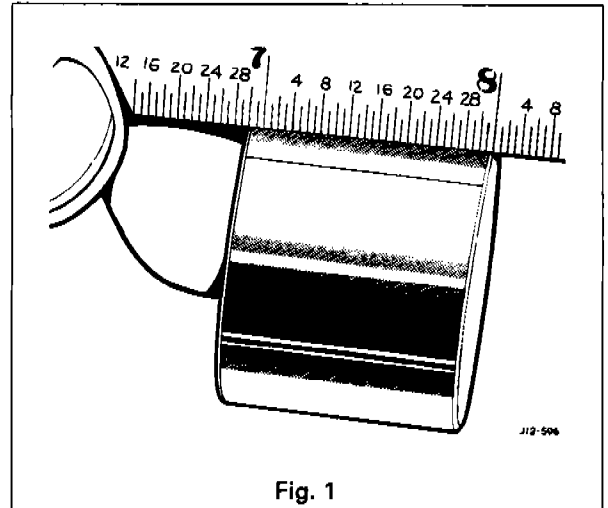

Fig. 1
- Examine the cam followers for wear on the top face, these should be perfectly flat. Check for any sign of barreling on the side faces (Fig. 1). Replace all followers that are worn or suspect.
- Refit the original shims in the valve collar recesses (1 Fig. 1).